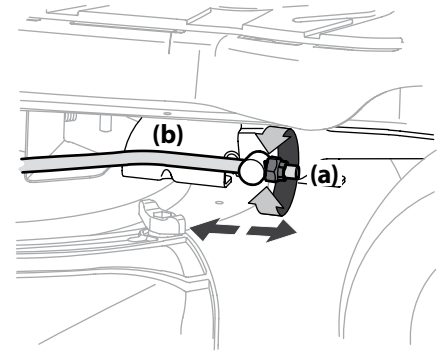

Figure 4-7
3. Locate the flange lock nut (a) on the front end of the PTO lift rod (b). See Figure 4-7.